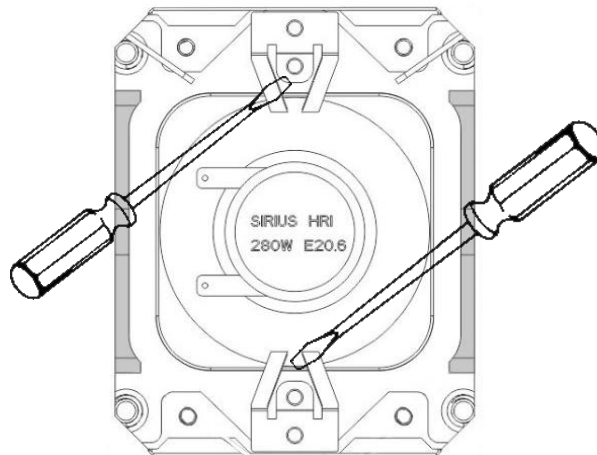

Figure 4 - Move the metal support of the lamp GENTLY
- No need to unscrew any more screws to remove the lamp, just GENTLY move the two metal parts that maintain the lamp in position. Hold the lamp by the base during this operation (Figure 4)